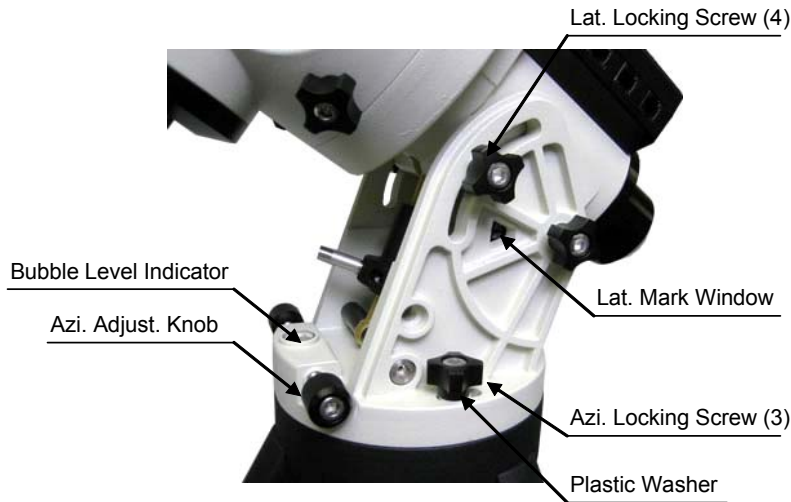
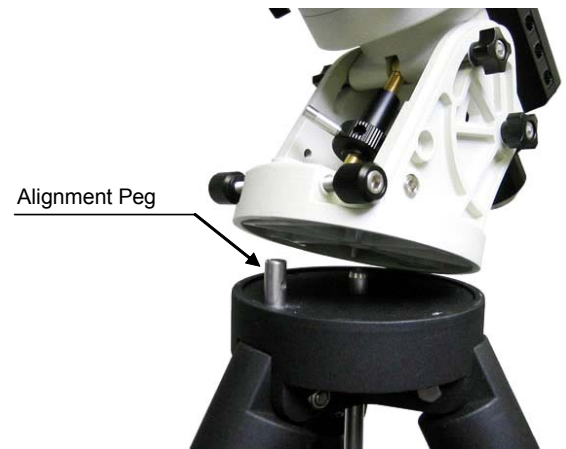

Figure 8
Figure 9
Locate the Azimuth Adjustment Knobs (next to the Bubble Level Indicator) and retract them to allow enough clearance for the mount to fit on the tripod head. Unscrew the three (3) Azimuth Locking Screws shown in Figure 8 and be careful not to lose the plastic washers; they will be needed to secure the mount. Place the mount onto the Tripod Head with the Bubble Level Indicator on top of the Alignment Peg as shown in Figure 9. Place the Teflon washers and the three (3) Azimuth Locking Screws back and tighten the screws. Level the tripod base by adjusting the individual legs. You may use the built-in Bubble Level Indicator or an external torpedo level to check leveling.